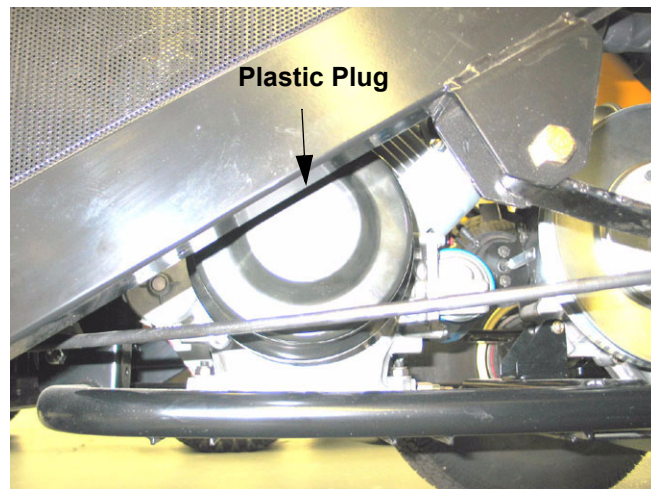

Figure 6.2
- 6.2. Carefully pry the plastic plug out of the center of the clutch cover. See Figure 6.2.